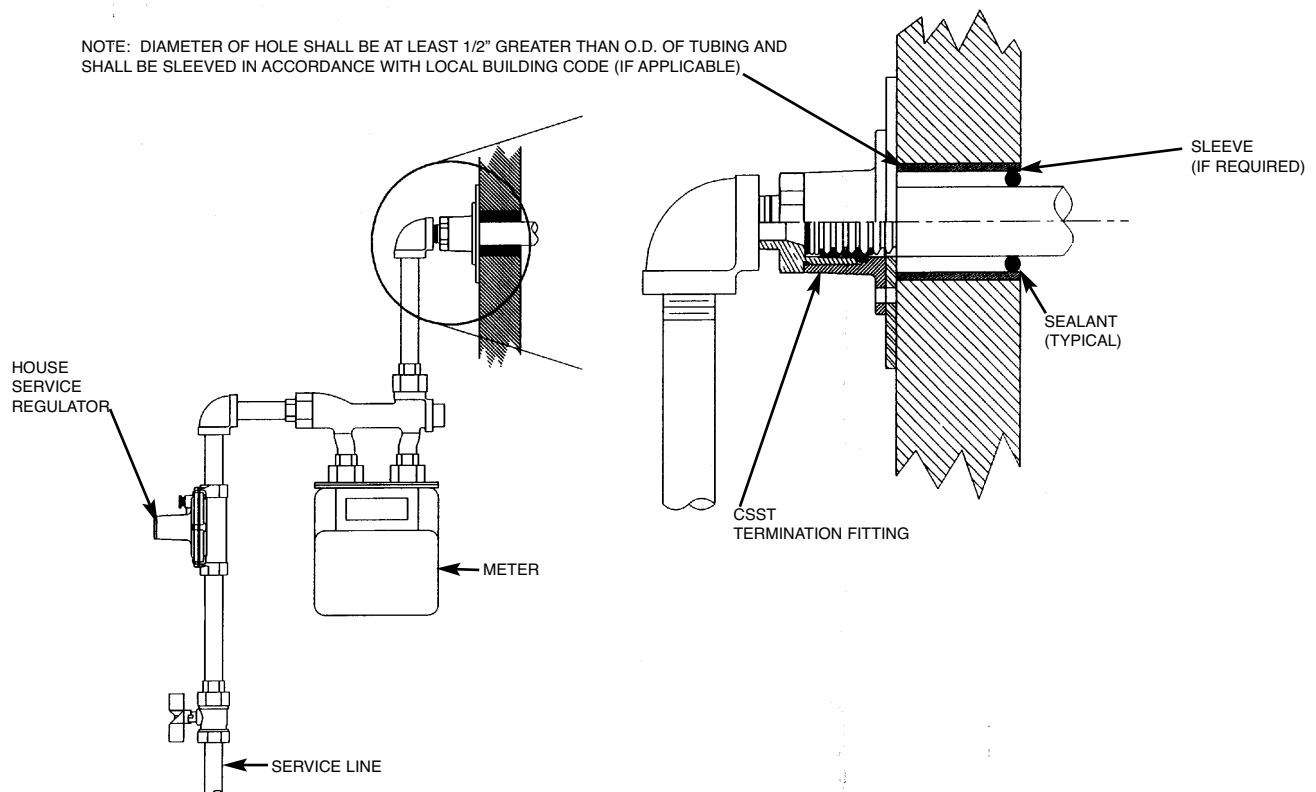

Figure 4.12
- Meters which depend on the service and house piping for support shall not be directly connected outdoors with WARDFLEX. As shown in Figures 4.12 & 4.13, steel pipe shall be used to connect the meter outlet to the Outdoor Termination Fitting on the exterior wall of the structure or to a transition from pipe to WARDFLEX located inside the structure.